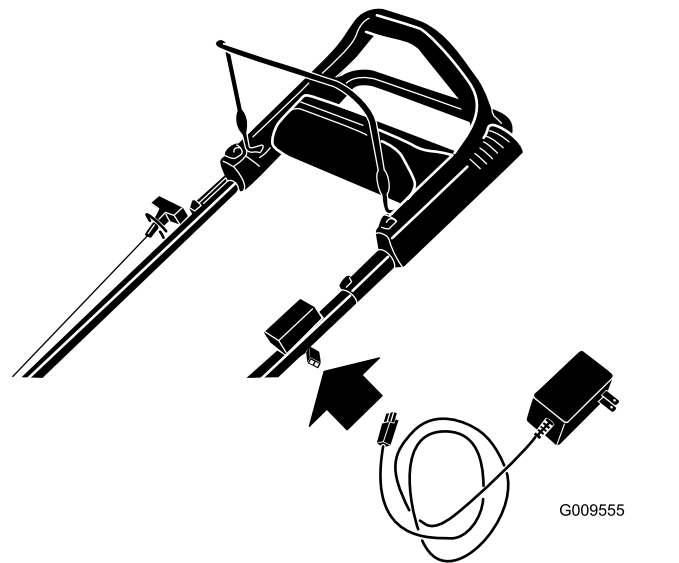

Figure 39
1. Connect the charger to the machine wire harness located below the ignition key (Figure 39).